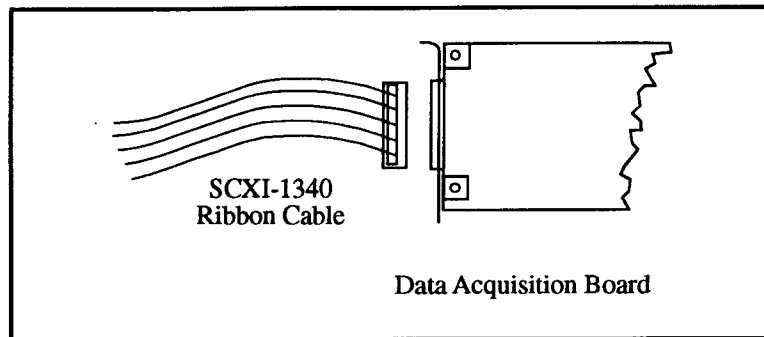

Figure 2. Cable to I/O Connector Connection
6. Connect the loose end of the SCXI-1340 cable to the I/O connector on the data acquisition board as shown in Figure 2. The SCXI-1340 makes a pin-to-pin connection from the mounting bracket connector to the breakout connector and the connector at the loose end of the cable.